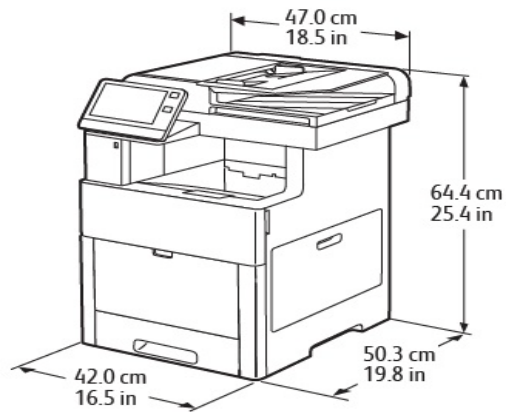

Figure 2 C505/C605
- C505/C605: Figure 2 and Table 6